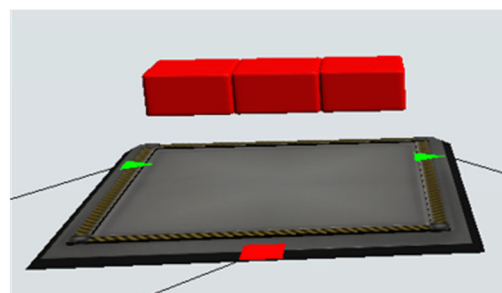

Fig. 11. Incorrect StackBase Z setting
3. **Stack Base Z** – specifies the level in the XYZ coordinate system from which the elements in the buffer are arranged. An example after setting the height to 0.5 m is shown in Figure 11.